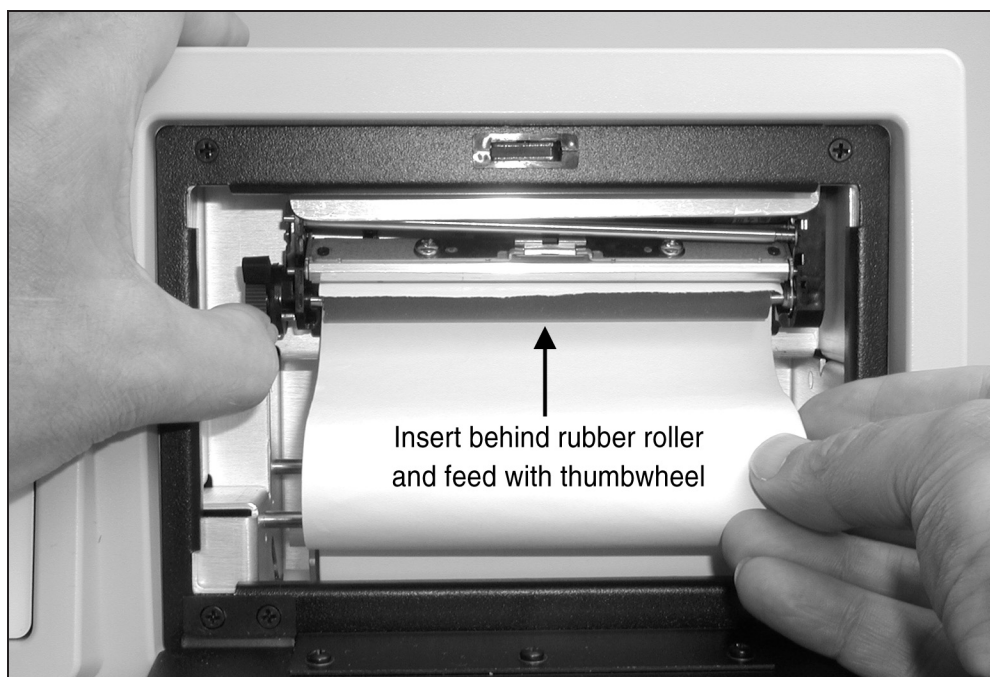

Figure 2.4.4C—Loading paper into the printer
3. Unroll approximately six inches of paper from the roll, and insert the paper's leading edge into the bottom of the printer, directly behind the rubber roller. See Fig. 2.4.4C.